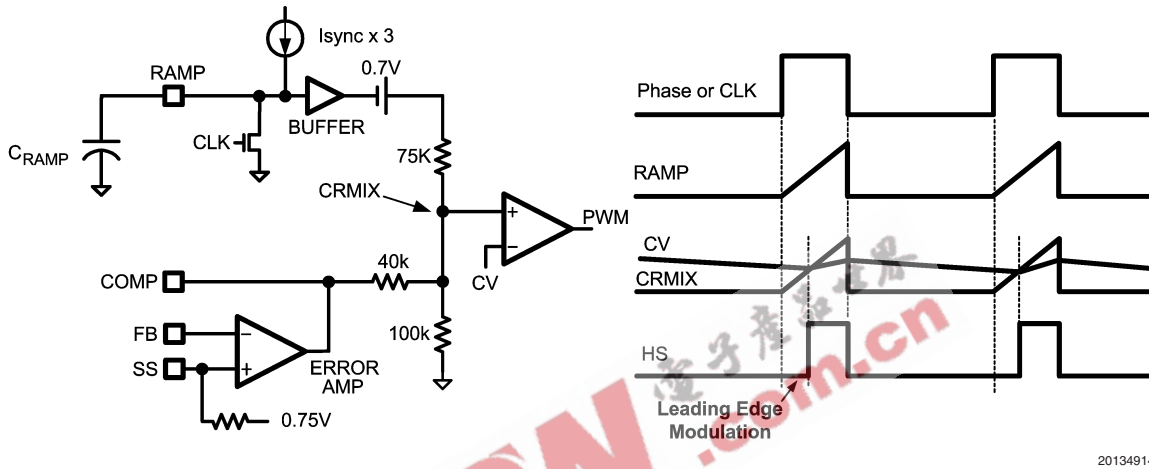

FIGURE 4. Synchronization and Leading Edge Modulation
the capacitor connected to the RAMP pin as shown in *Figure 4*. The ramp signal and the output of the error amplifier (COMP) are combined through a resistor network to produce a voltage ramp with variable dc offset (CRMIX in *Figure 4*). The high side MOSFET which drives the HS pin is held in the off state at the beginning of the phase signal. When the voltage of CRMIX exceeds the internal threshold voltage CV, the PWM comparator turns on the high side MOSFET. The HS pin rises and the MOSFET delivers current from the main converter phase signal to the output of the auxiliary regulator. The PWM cycle ends when the phase signal falls and power is no longer supplied to the drain of the high side MOSFET.
of the sense amplifier is nominally equal to 16. The current sense output signal is shifted by 1.27V to produce the internal CV reference signal. The CV signal is applied to the negative input of the PWM comparator and compared to CRMIX as illustrated in *Figure 4*. Thus the PWM threshold of the voltage mode controller (CV) varies with the instantaneous inductor current.
Current limiting is implemented through the current sense amplifier as illustrated in Figure 6. The current sense amplifier monitors the inductor current that flows through a sense resistor connected between CS and VOUT. The voltage gain of the current sense amplifier is nominally equal to 16. The output of current sense signal is shifted by 1.27V to produce the internal CV reference signal. The CV signal drives a current limit amplifier with nominal transconductance of 16mA/V. The current limit amplifier has an open drain (sink only) output stage and its output pin CO is typically connected to the COMP pin. During normal operation, the voltage error amplifier controls the COMP pin voltage which adjusts the PWM duty cycle by varying the internal CRMIX level (Figure 4). However, when the current sense input voltage V_{CL} exceeds 45mV, the current limit amplifier pulls down on COMP through the CO pin. Pulling COMP low reduces the CRMIX signal below the CV signal level. When CRMIX does not exceed the CV signal, the PWM comparator inhibits output pulses until the CRMIX signal increases to a normal operating level.
Both drivers are controlled by the PWM logic signal from the PWM latch. When the phase signal is low, the outputs are held in the reset state with the low side MOSFET on and the high side MOSFET off. When the phase signal switches to the high state, the PWM latch reset signal is de-asserted. The high side MOSFET remains off until the PWM latch is set by the PWM comparator ($CRMIX > CV$ as shown in *Figure 4*). When the PWM latch is set, the LO driver turns off the low side MOSFET and the HO driver turns on the high side MOSFET. The high side pulse is terminated when the phase signal falls and SYNC input comparator resets the PWM latch.